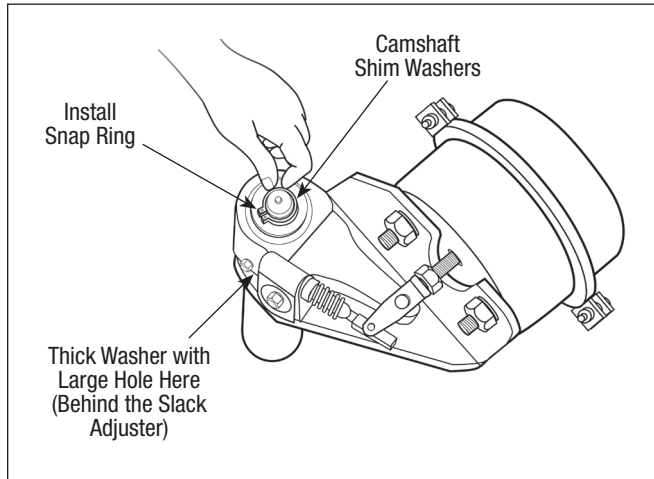

Figure 56 – Shim Washer and Snap Ring Installation
in. thickness and larger hole. Refer to Figure 56.
5. Install the camshaft shim washers and snap ring. Refer to Figure 56. Check and adjust the camshaft axial play. See Step 6.